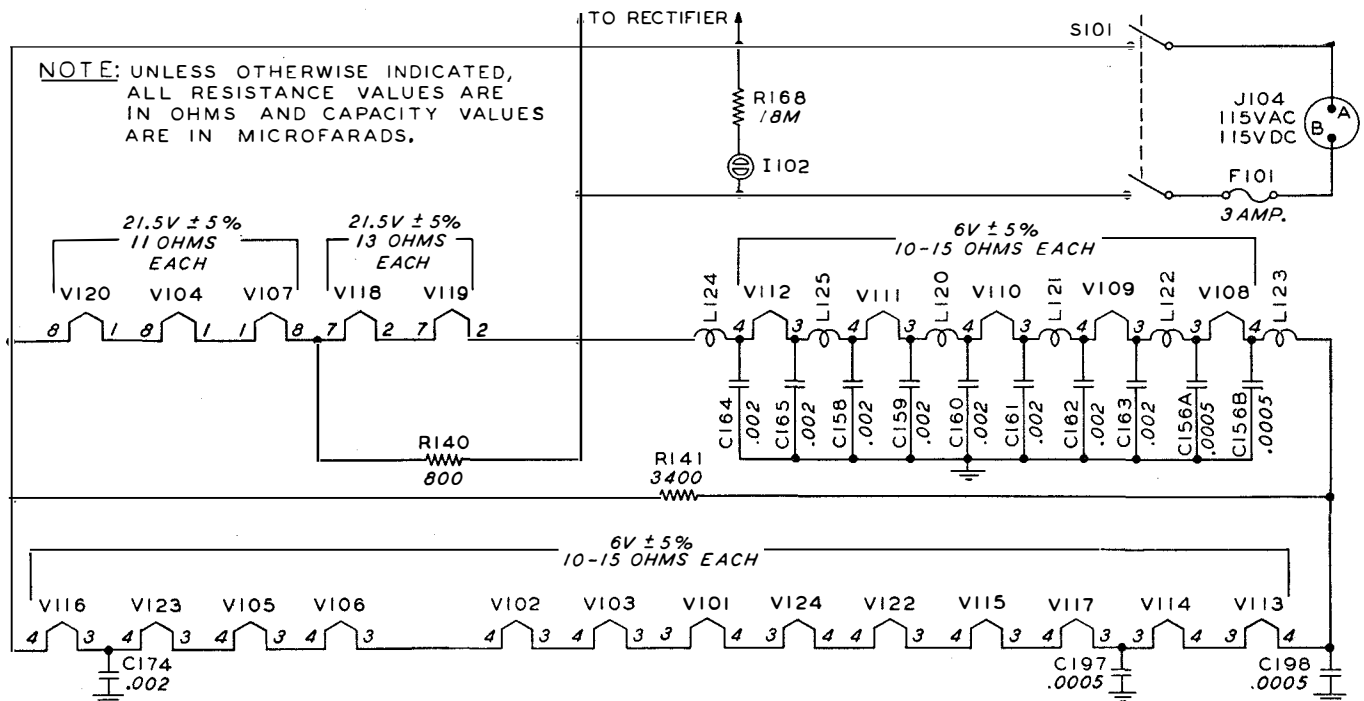

Figure 5-1—Filament Circuit Voltage and Resistance Measurements
2. Measure the resistance of each tube filament at the socket numbers shown on figure 5-1. If the measured filament resistance is found to be appreciably different the tube is probably defective. To determine whether a shorted capacitor caused the tube to open, remove V116 and V120 and measure the resistance to ground of the associated filter capacitors. The ohmmeter should indicate a resistance of 3400 ohms if the capacitors are not shorted.